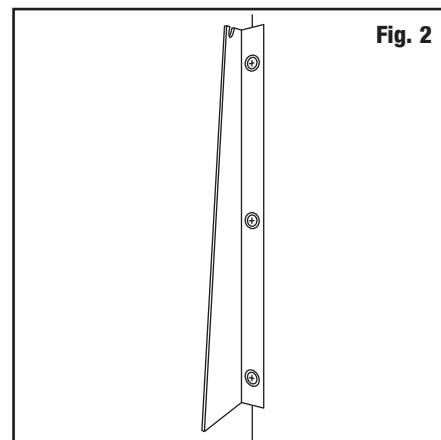

Fig. 2
5. Mount Top Bracket aligning top three holes on wall with holes in bracket and secure using washers and screw (Fig. 2).